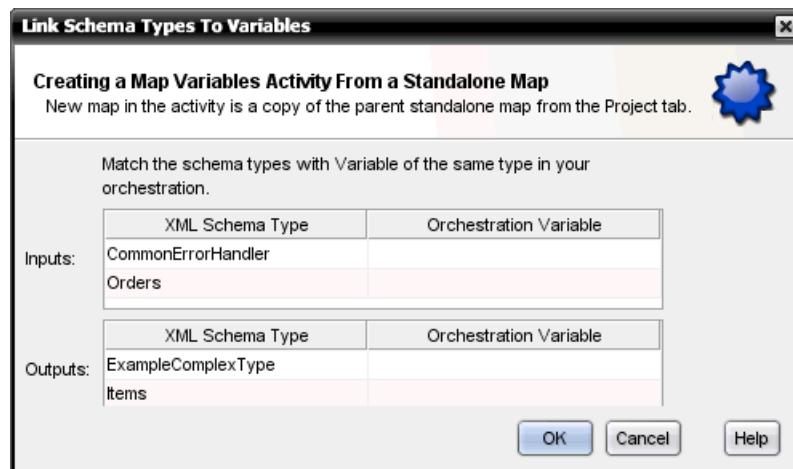

Figure 3-99 The Link Schema Types To Variables window
- The Link Schema Types To Variables window shown in Figure 3-99 opens. Use the drop-down boxes in the Orchestration Variables column to select existing variables of the correct data types that are used by the Map Variables activity that is created, and then click OK.